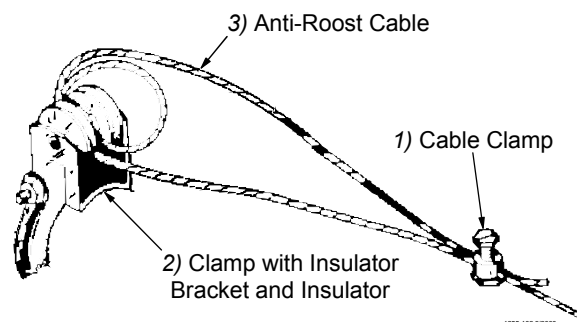

Figure 82. Anti-Roost Cable at the Hopper
2. Start at the hopper end of the line and form a loop around the anti-roost bracket. For best results, make a double loop around the anti-roost insulator in the center groove of the insulator and fasten with a 1/16" cable clamp as shown in **Figure 82**.